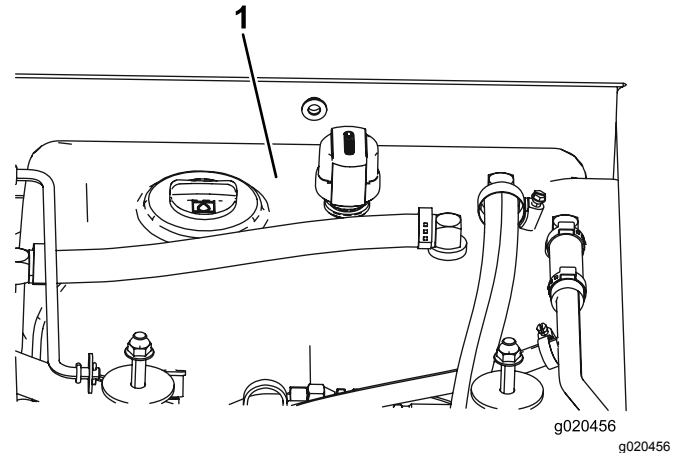

Figure 104
4. Fill the reservoir (Figure 104) with hydraulic fluid; refer to Checking the Hydraulic Fluid (page 72).